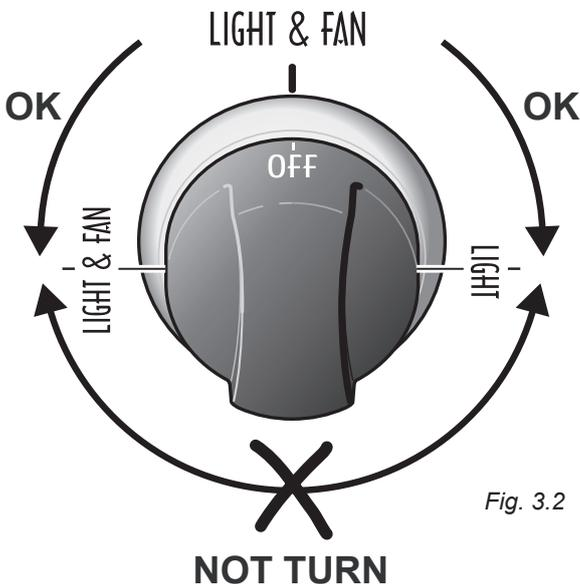

Fig. 3.2
The oven light and the fan motor are controlled by a switch knob on the control panel (fig. 3.2).
- During ignition of the oven burner, the fan motor shall be switched off (light and fan control knob in “OFF” position – Fig. 3.2).
After lighting the oven burner switch on the fan motor by turning the LIGHT & FAN control knob (fig. 3.2) on "**LIGHT & FAN**" position.
With the oven burner control knob in "**OFF**" position turn the LIGHT & FAN control knob (fig. 3.2) on "**LIGHT & FAN**" position.